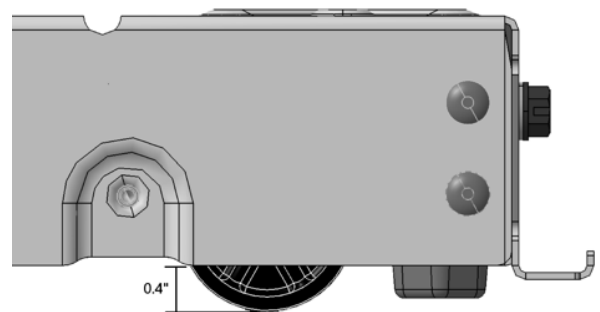

Figure 7
- d. Attach remaining Leveler Assembly as described in the previous 3 steps. With the refrigerator/freezer still on its back, adjust all leveling wheels to approximately the orientation in Figure 7: